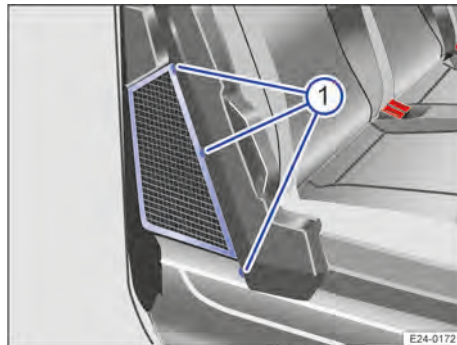

Fig. 158 Load restraint net attached in bench seat position.
When using in the seat position: attach the retaining rings in the holders on the seat frame → Fig. 158 ①.